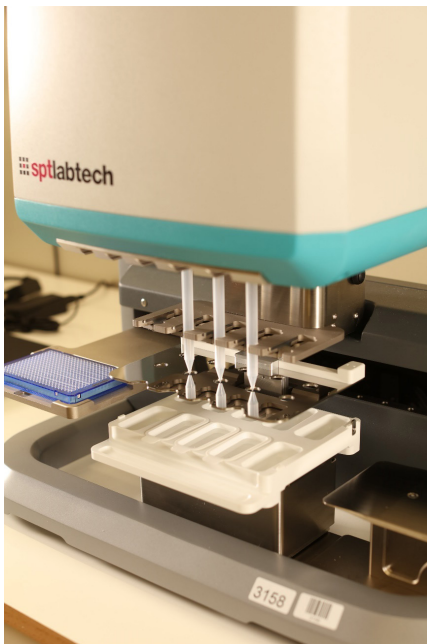

Figure 31. Reservoir tray in aspirate position
5. Carefully slide the reservoir tray back to the aspirate position (*Figure 31*).